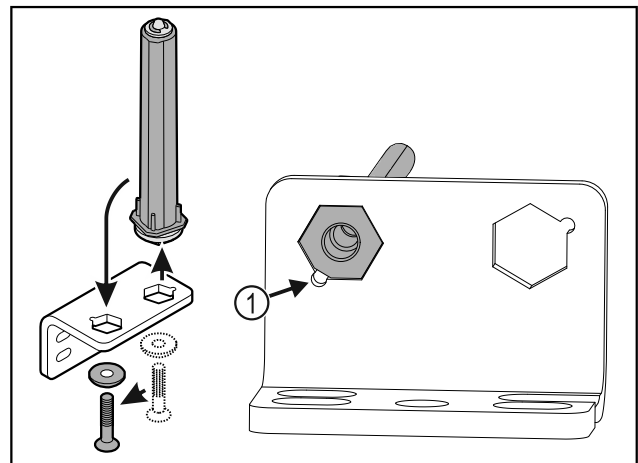

Fig. 39
- ▶ Make sure the pin chamfer Fig. 39 (1) faces the round hole when you put it in.